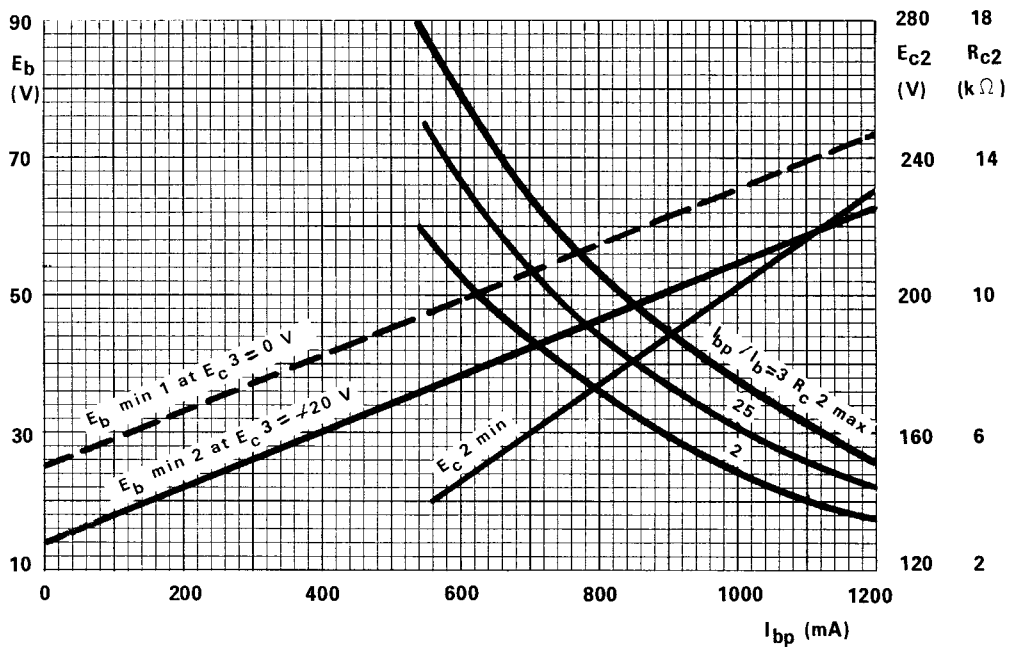

Figure 2
**Supply Voltage:** Refer to Figures 2, 3 and 4
**Maximum Permissible Screen Grid Series Resistance Rc2 max. see Figures 2, 3 and 4**